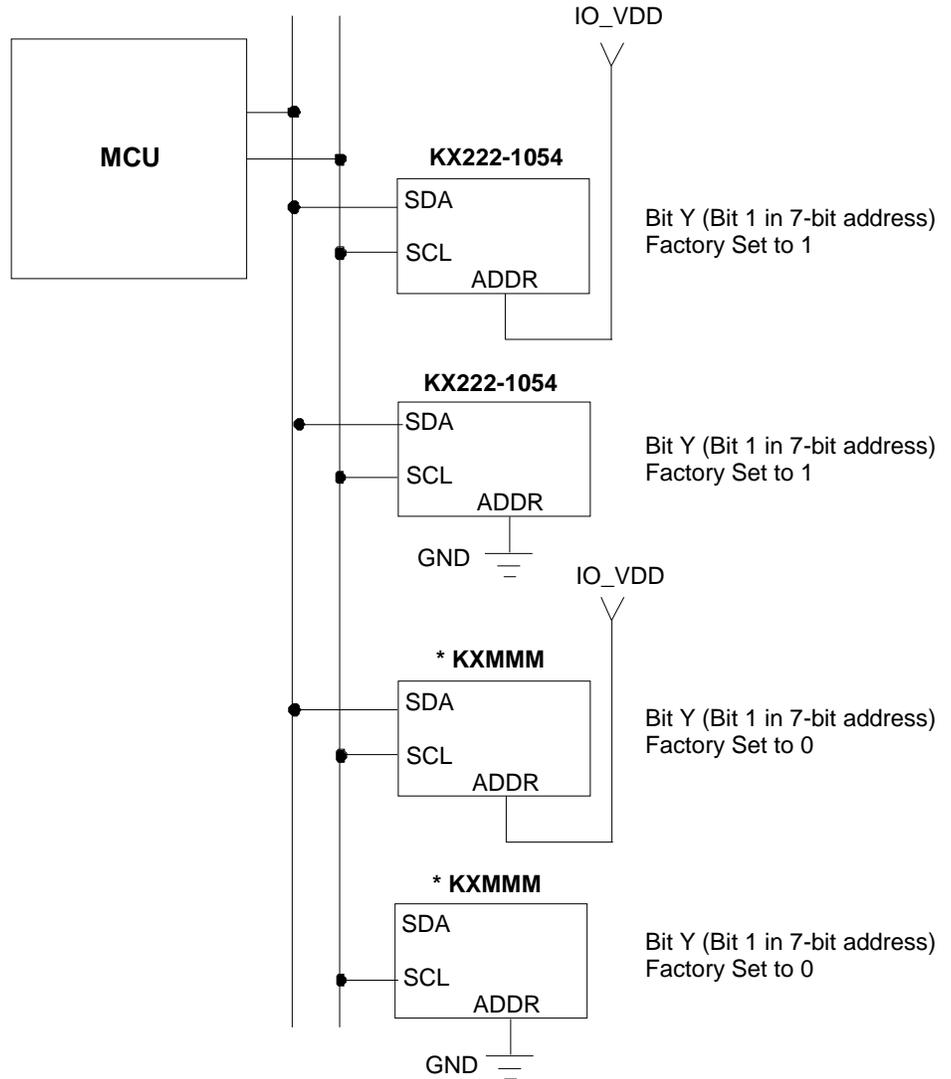

Figure 1: Multiple KX222 Accelerometers on a Shared I²C Bus
Transactions on the I²C bus begin after the Master transmits a start condition (S), which is defined as a high-to-low transition on the data line while the SCL line is held high. The bus is considered busy after this condition. The next byte of data transmitted after the start condition contains the Slave Address (SAD) in the seven MSBs (Most Significant Bits), and the LSB (Least Significant Bit) tells whether the Master will be receiving data '1' from the Slave or transmitting data '0' to the Slave. When a Slave Address is sent, each device on the bus compares the seven MSBs with its internally stored address. If they match, the device considers itself addressed by the Master. The KX222 Slave Address is comprised of a user programmable part, a factory programmable part, and a fixed part, which allows for connection of multiple accelerometers to the same I²C bus. The Slave Address associated with the KX222 is 00111YX, where the user programmable bit X, is determined by the assignment of ADDR (pin 1) to GND or IO_VDD. Also, the factory programmable bit Y is set at the factory. **For KX222-1054, the factory programmable bit Y is fixed to 1** (contact your Kionix sales representative for list of available devices). Table 6 lists possible I²C addresses for KX222-1054. As a result, up to four accelerometers can be implemented on a shared I²C bus as shown in Figure 1 on the next page (e.g. two KX222-1054 accelerometers and two other accelerometers with factory programmable bit Y set to 0).